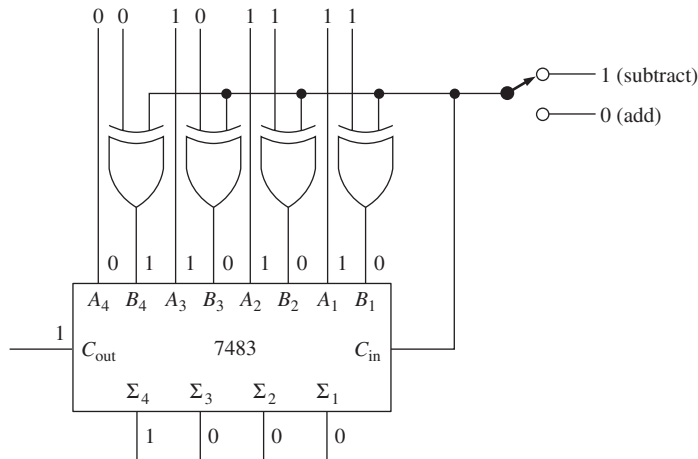

Figure P27
- T** 27. Figure P27 is a 4-bit two's-complement adder/subtractor. We are attempting to subtract $7 - 3$ ($0111 - 0011$) but keep getting the wrong answer of 8 (1000). Each test node in the circuit is labeled with the logic state observed using a logic probe. Find the two faults in the circuit.